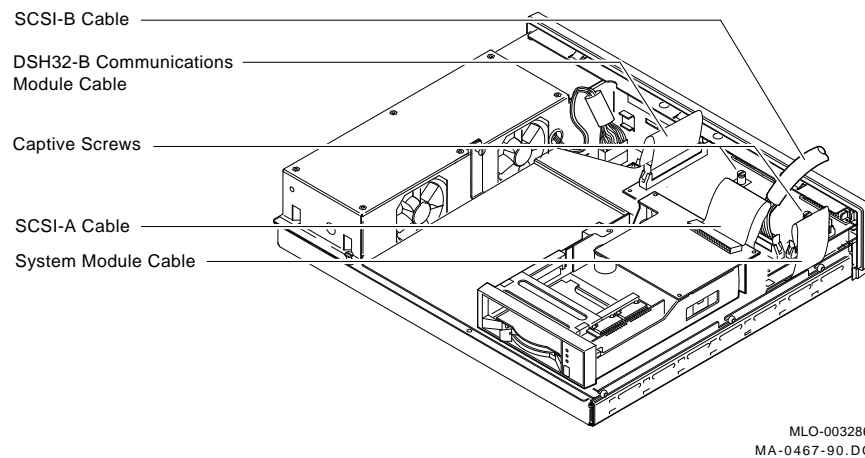

Figure 1-4 System Module Cable
3. Disconnect the system module cable from the distribution module (Figure 1-4).
4. Disconnect the DSH32-B module cable (if applicable) from the distribution module (Figure 1-4).